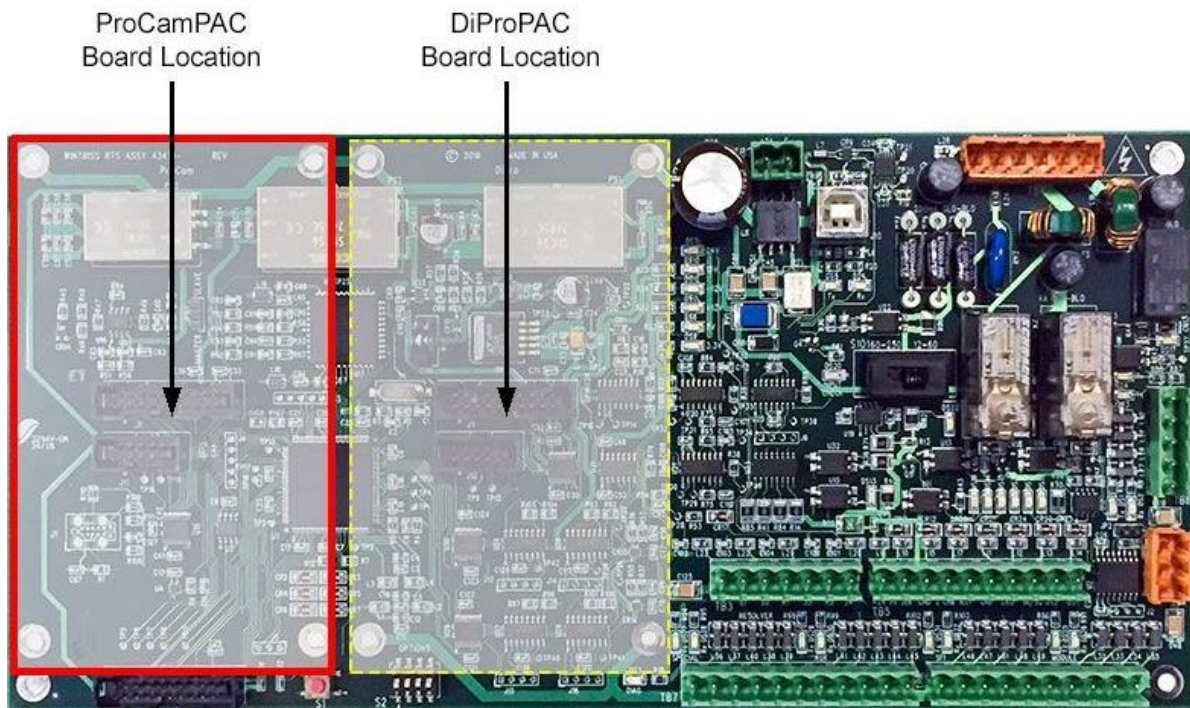
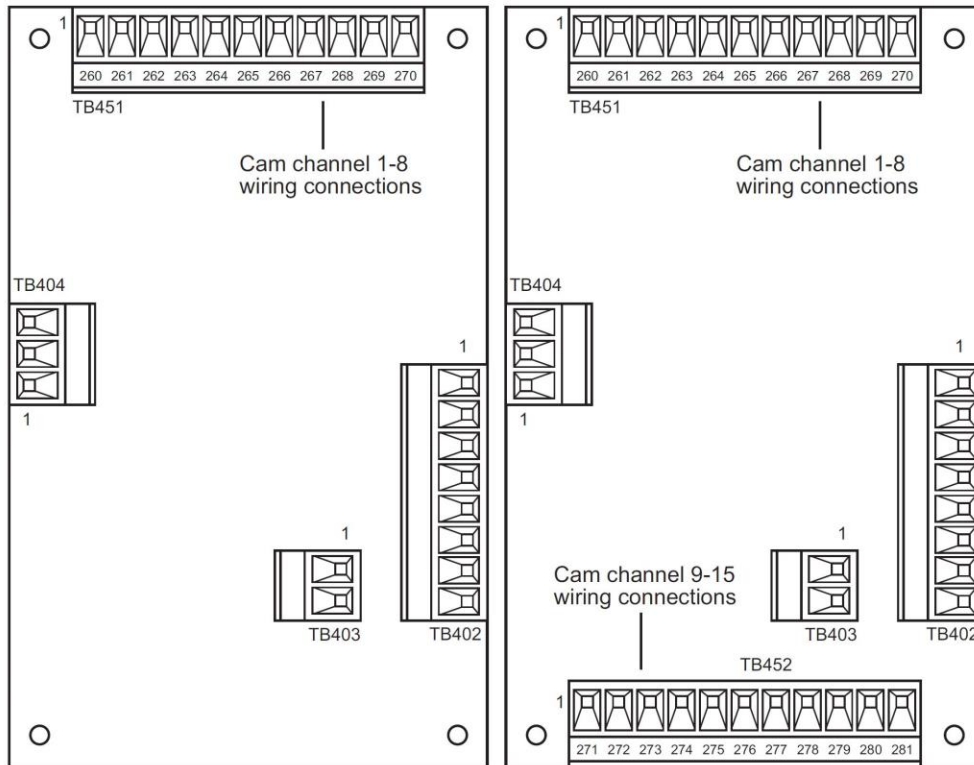

Figure 2-7. SmartPAC PRO Servo Board– ProCamPAC Board, Left, Outlined in Red
Figure 2-8. ProCamPAC Linear Boards, Location of Components
3. Measure and cut the transducer wires so they comfortably reach TB402 on the ProCamPAC board. See Figure 2-7, below, for the location of the ProCamPAC board on the SmartPAC PRO Servo board and Figure 2-8 for the location of TB402 on the ProCamPAC board.
2. Locate connector TB4 on the SmartPAC PRO Servo board (see Figure 2-7, page 37) and unplug it from its socket. Connect the wires for the stop and input check circuits to TB4 pin locations, as shown in Table 2-2, below, and Figure 4 at the end of the manual.